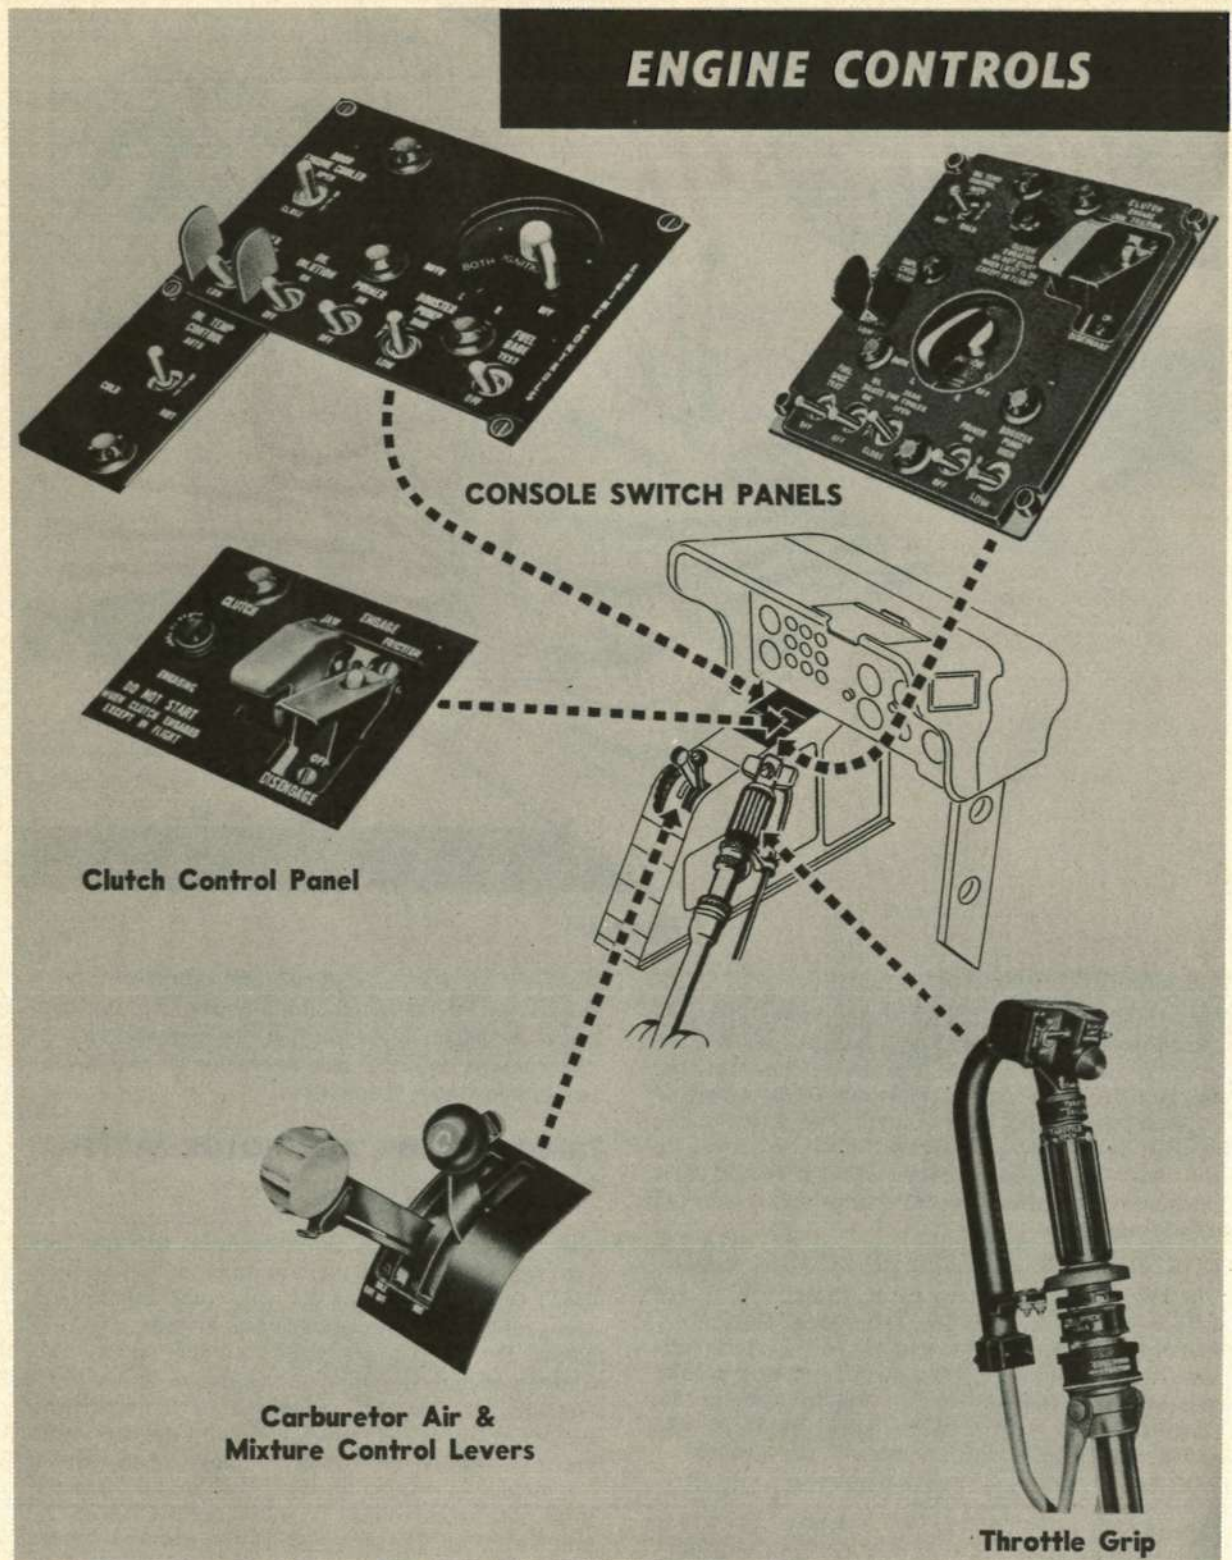
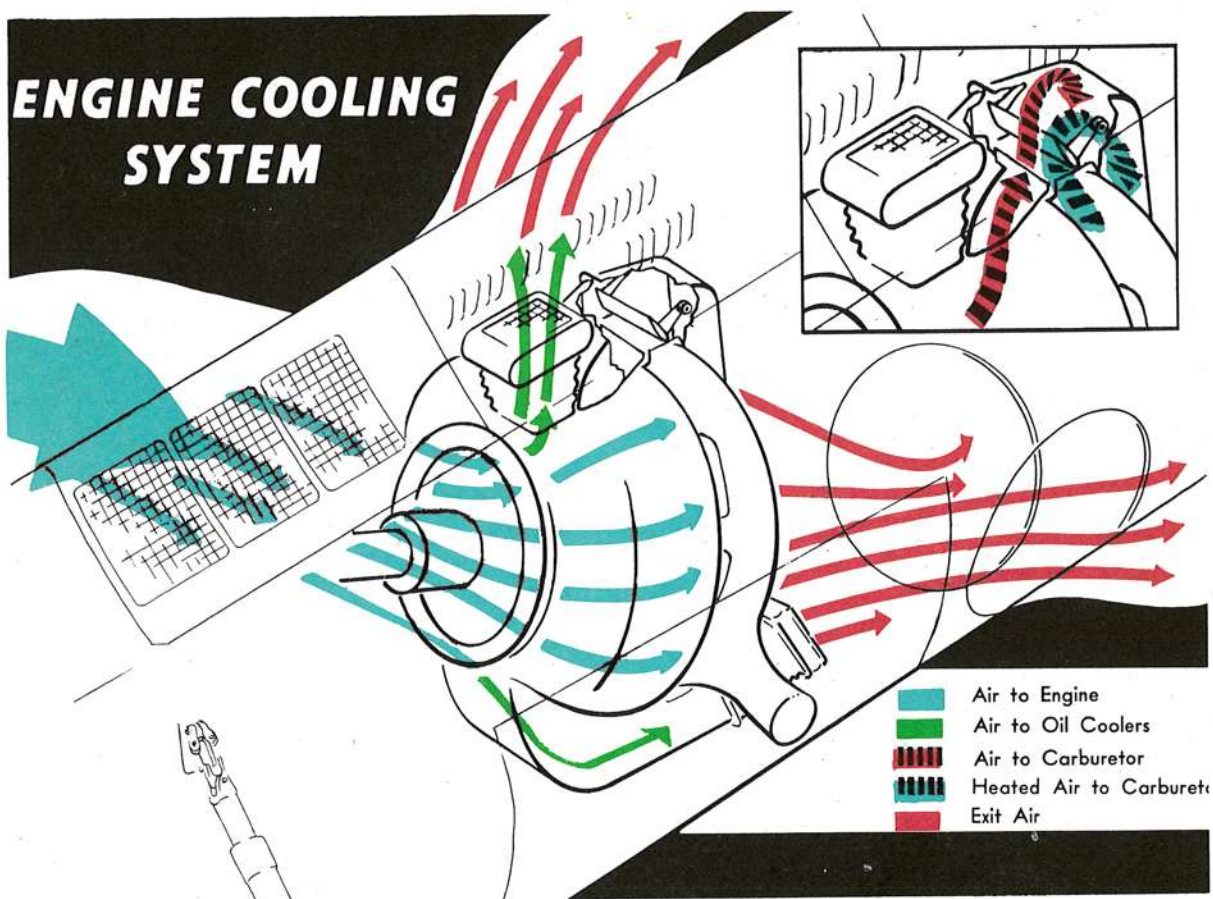

Figure 1-5
Figure 1-6
The mixture control lever (figure 1-5) is located on the console below the switch panel. The positions of the mixture control are as follows:
The carburetor heat control lever is located on the console (figure 1-5) to the right of the mixture control. The forward position is COLD; the aft position is HOT. There are three detents for positive positioning of this control between COLD and HOT. There is enough friction designed into the system so that any position may be selected between the detents and the control will not move. Experience has shown that adequate heat is available when operating at  $-54^{\circ}\text{C}$  with the heat control set in the vicinity of the mid point (second detent) between COLD and HOT. When the carburetor heat control lever is placed in the COLD position, air is forced by the fan through the carburetor air duct located above the engine. When this control is positioned at HOT, heated air from around the engine cylinders and exhaust shroud is channeled through the air duct into the carburetor air intake. Refer to figure 1-6 for air flow.
The supercharger control switch (figure 1-5) is mounted on the console just below and to the left of the ignition switch. This is 2-position, HIGH-LOW, toggle switch which, when flipped to HIGH, actuates the engine selector valve to the high blower position, and inversely, when on LOW, provides for engine operation in low blower.
An engine air cooling system (figure 1-6) is necessary since ram air is not available during ground operations and hovering of the helicopter. The system consists of a fan, stator ring, cylinder head baffles and a cowling, plus the necessary air
**ENGINE COOLING SWITCH.** The engine cooling switch (figure 1-5), which operates the electrically actuated air exit door, is mounted on the console switch panel and is a momentary 3-position, OPEN-OFF-CLOSED, switch. However, since the electric actuators have been removed, the switch has no function.
This switch is located on the engine controls section of the console switch panel (figure 1-5). The switch positions are OFF, R for right magneto, L for left magneto, and BOTH for both magnetos.
The fuel primer, ON-OFF, switch (figure 1-5) is installed on the engine controls section of the console switch panel. When the switch is held in the ON position, an electrically actuated solenoid opens the primer valve, located on the rear of the carburetor. The switch is spring-loaded and will return to the OFF position when released.
**FRICION SWITCH.** This switch is located on the center portion of the console switch panel (figure 1-5). When the switch is moved to ENGAGE, the friction clutch is actuated, connecting the engine with the rotor system. This switch must remain in ENGAGE position for all rotor operation. Moving the switch to DISENGAGE position will disengage the engine from the rotors.
**JAW SWITCH.** This switch (figure 1-5) is adjacent to the clutch friction switch. It is a momentary type switch and must be held in JAW position during jaw clutch engagement until the clutch engaging light goes out. It will return to the OFF position when released. If the jaw switch is moved to JAW position before the friction switch is engaged, no action will occur.
**CLUTCH ENGAGING LIGHT.** The clutch engaging light (figure 1-5) is located on the console adjacent to the clutch switches and illuminates when the friction clutch switch is put in the ENGAGE position. This light will stay on until the jaw clutch switch is thrown on and the jaw clutch is fully engaged. This action should occur within two to four seconds.
**OIL TEMPERATURE CONTROL SWITCH.** The oil temperature control switch (figure 1-5) has
The ON-OFF switch is located on the engine controls section of the console switch panel (figure 1-5). When the switch is placed ON, the engine oil is diluted with fuel. The oil should never be diluted for longer than nine minutes. Refer to Section IX for correct procedure.
This is a 3-position switch (HIGH-LOW-OFF) for operating the electrically-driven fuel pump. The switch is located on the console switch panel (figure 1-5). The pump is inoperative when the switch is in the OFF position. Use HIGH position for starting the engine, for take-off, landing, and for operating above 10,000 feet or below 1000 feet altitude. Use HIGH position also, in event of engine pump failure. Use LOW position for flight between 1000 and 10,000 feet altitude and in autorotative descent.
This spring-loaded, two-position, TEST-OFF, switch is installed on the engine controls section of the console switch panel (figure 1-5). When operated, the switch grounds one side of the bridge and causes the indicator pointer to rotate continuously counter-clockwise. It is necessary to create a test condition just long enough to displace the pointer an observable amount. The pointer should return to its original position when the switch is released. Failure to do so indicates a malfunction in the system.